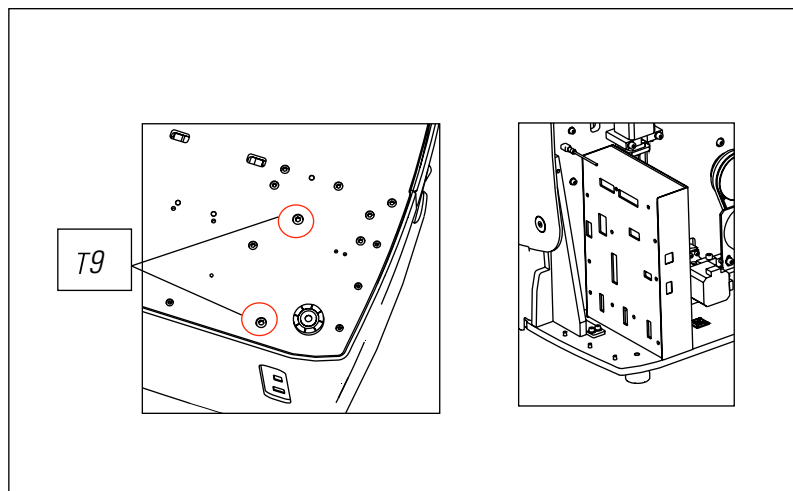

FIG. 22
- 3) Release the two screws (T9) with a 5mm Allen key (Fig. 22)